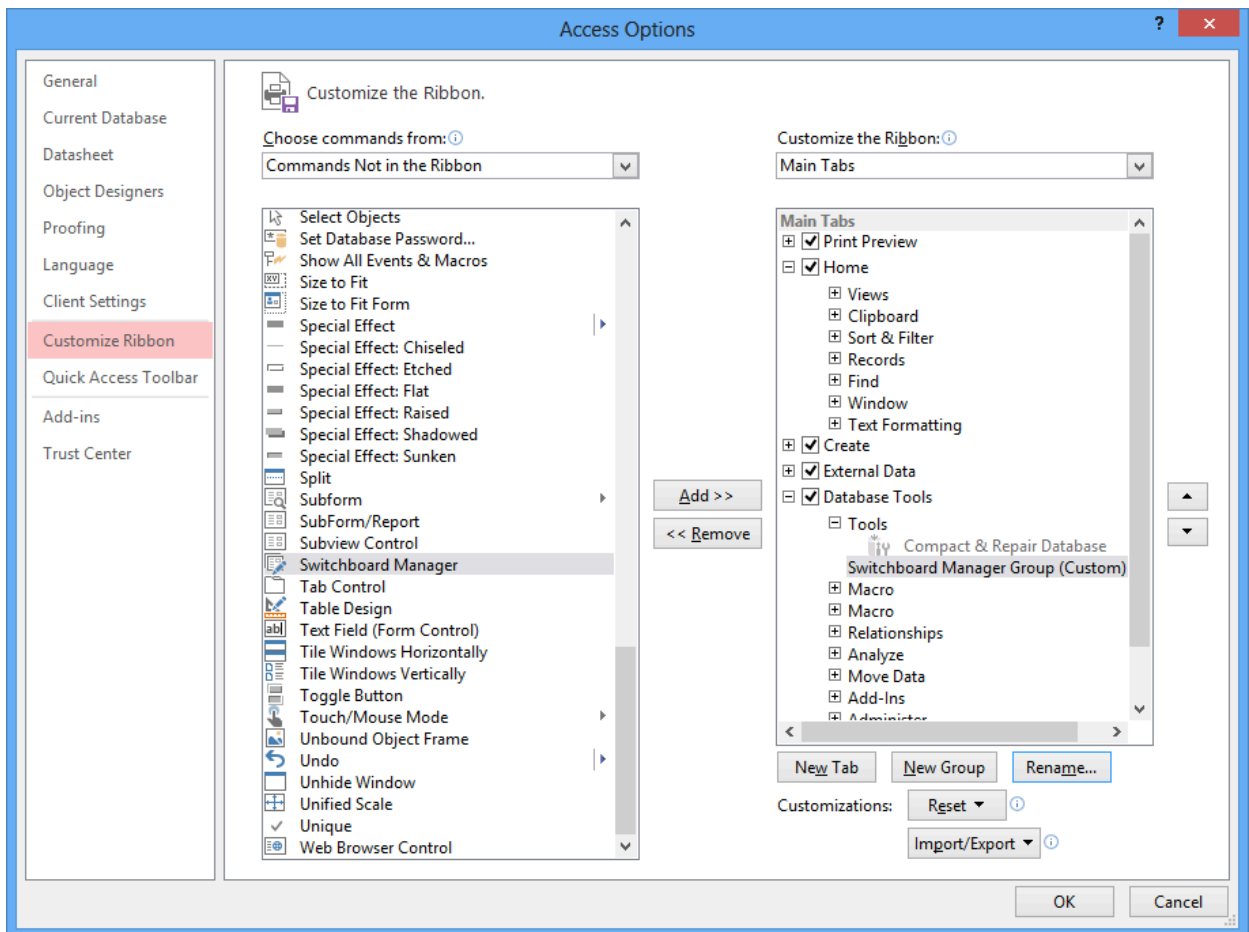
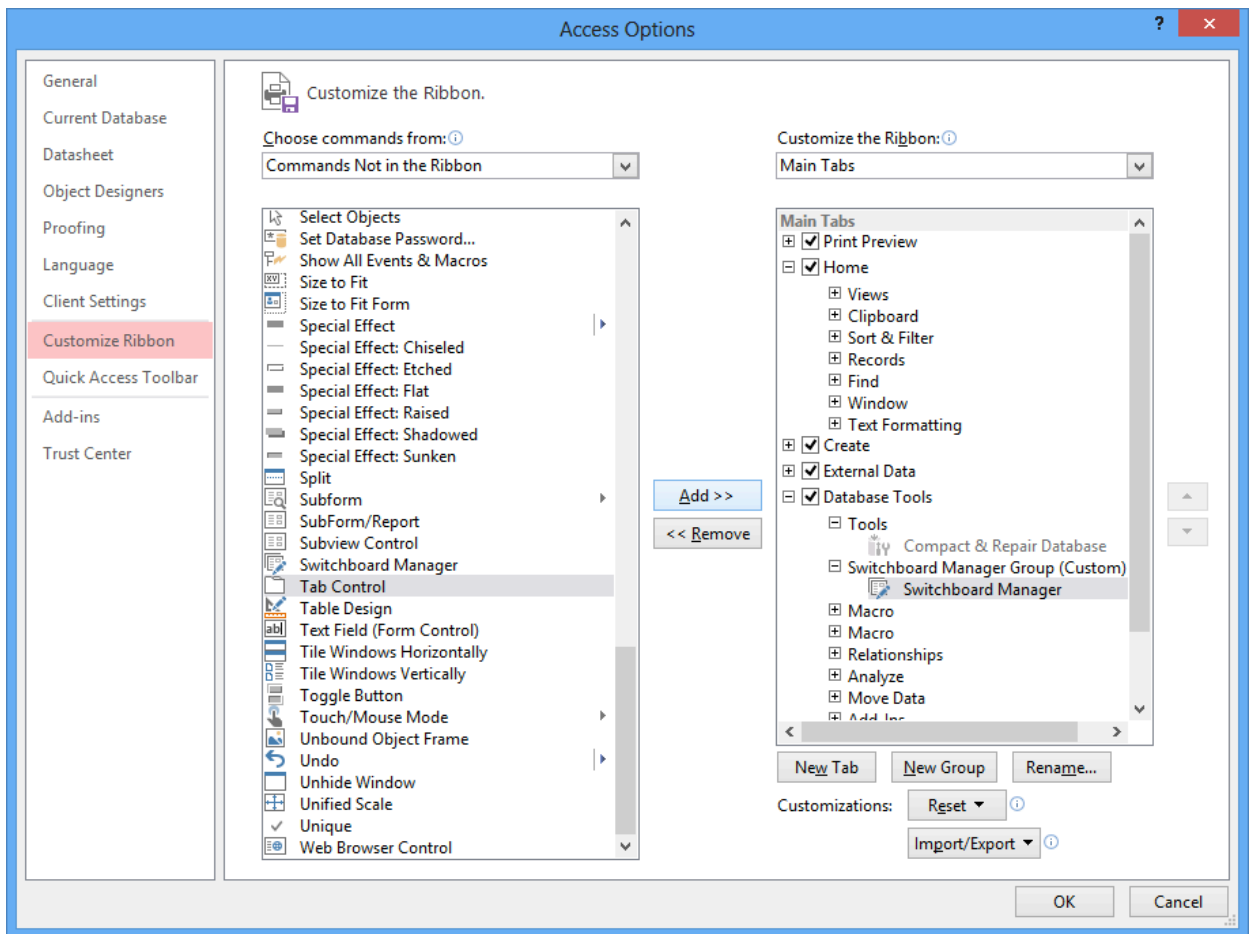

Figure 2: Switchboard Manager Group added to the Database Tools
Figure 3: Switchboard Manager Item added to the Switchboard Manager Group
2. Add the Switchboard Manager to the Database Tools tab: Before you can add the Switchboard item, you need to create a new group in the Ribbon. Select Tools under Database Tools in the right pane. Then click the **New Group** button. Rename the group as “Switchboard Manager Group” using the **Rename** button. The new group appears as in Figure 2. Select the Switchboard item in the left pane and click the **Add >>** button to place it in the Database Tools tab as shown in Figure 3. Click the **OK** button to close the Access Options window.